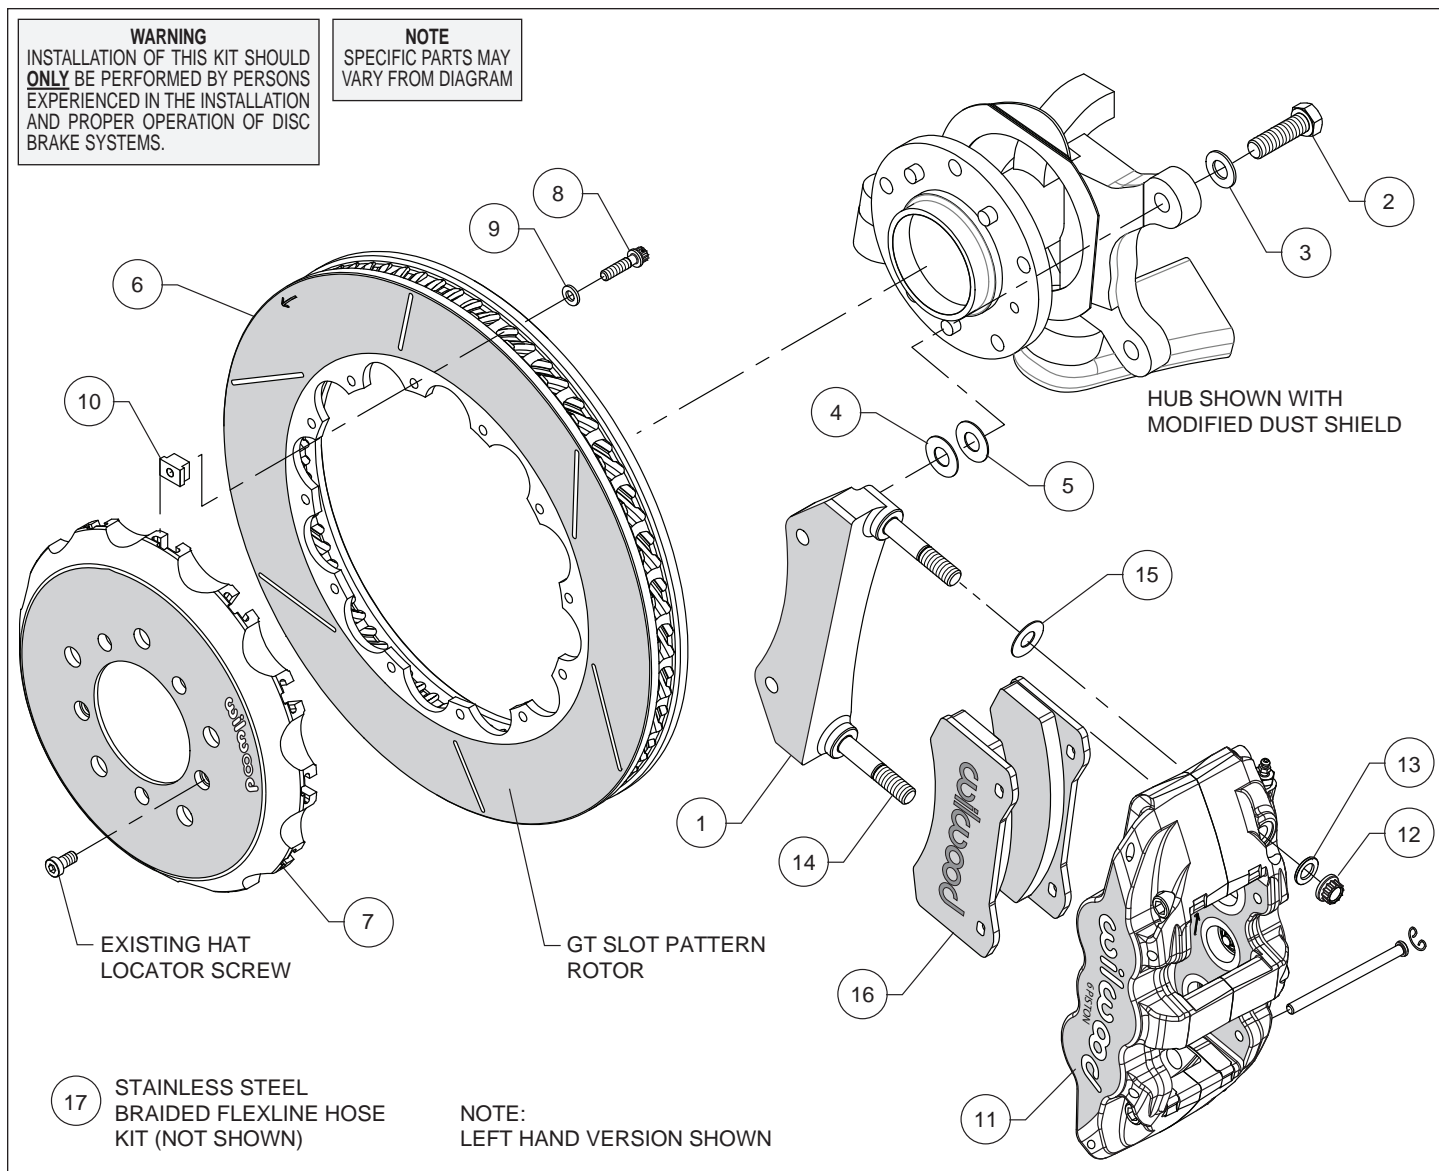
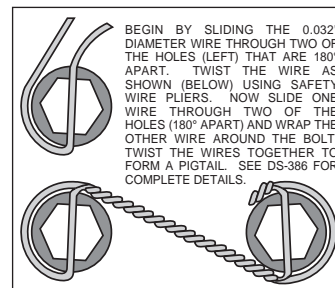

Figure 1. Typical Installation Configuration
Figure 3. Safety Wire Diagram
**Assembly Instructions** (numbers in parenthesis refer to the parts list and Figure 1 on the preceding pages):
- The caliper mount bracket (1) should initially be installed with clean, dry threads on the mounting bolts. Orient the bracket as shown in Figure 1 and Photo 2, and install using bolts (2) and washers (3). Initially place one .033 thick shim (4) on each bolt between the bracket and upright, Figure 1. Temporarily tighten the mounting bolts. **NOTE:** The bracket must fit squarely against the mounting points on the upright. Inspect for interference from casting irregularities, machining ridges, burrs, etc. Later, after the caliper alignment has been checked, the mount bolts will be secured using red *Loctite*® 271.
- Orient the rotor (6) and the hat (7) as shown in Figure 1 and Photo 3. Attach rotor to hat using bolts (8), washers (9), and t-nuts (10). Follow additional instructions included with the bolt kit. Using an alternating sequence, apply red *Loctite*® 271 to the threads, and torque to 120 in-lbs. Safety wire bolts using standard 0.032 inch diameter stainless steel safety wire as shown in Figure 3. Please refer to Wilwood's data sheet DS-386 (available at [www.wilwood.com/Pdf/DataSheets/ds386.pdf](http://www.wilwood.com/Pdf/DataSheets/ds386.pdf)) for complete safety wire installation instructions.
- **NOTE:** This kit contains distinct right and left hand calipers that must be mounted in a specific direction, as described below. Lubricate the caliper mounting studs (14) with lightweight oil. Initially place one .030" thick shim (15) on each stud between the caliper and the bracket, as shown in Figure 1 and Photo 5. Mount the caliper (11) onto the bracket (1) using lock nuts (12) and washers (13), Figure 1. Ensure that the caliper is mounted so the largest pistons are at the rotor exit end of the caliper, in relation to the direction of rotor rotation. Temporarily tighten the lock nuts and view the rotor through the top opening of the caliper. The rotor should be centered in the caliper, Photo 6. If not, adjust by adding or subtracting shims (4 and/or 5) between the bracket and the upright. Always use the same amount of shims on each of the two mounting bolts. Once the caliper alignment is correct, remove the bracket mounting bolts (2) one
- Remove the caliper (11) then remove the two pad retaining pins by carefully popping out the pin retaining clips and sliding out the pins. Insert the brake pads (16) into the caliper from the bottom, Figure 1 and Photo 7. With the friction material facing the rotor, secure the brake pads in place with the pad retaining pins and clips, Photo 8. Reinstall the caliper onto the caliper mounting bracket and temporarily tighten the lock nuts (12). Check that the top of the brake pad is flush with the outside diameter of the rotor, Photo 9. If not, adjust by adding or subtracting shims (15) between the caliper and the bracket. After the caliper pad height is set, torque the caliper lock nuts (12) to 47 ft-lb.